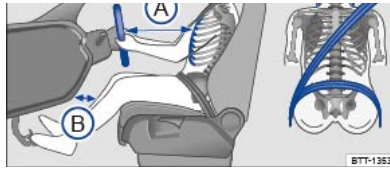

Fig. 30 Illustration: correct distance between the driver and the steering wheel, correct seat belt routing and correct head restraint adjustment.
- Adjust the head restraint so that its upper edge is at the same height as the top of the head, but not lower than eye level. Position the back of your head as close to the head restraint as possible ⇒ *Fig. 30*.
- Adjust the steering wheel so that the distance between the steering wheel and your breastbone is at least 25 cm ⇒ *Fig. 30* Ⓞ, and the circumference of the steering wheel can be held at the sides with both hands and your arms slightly bent ⇒ *Steering wheel*.
- Adjust the driver seat by moving it forwards or backwards so that you are able to press the pedals to the floor with your knees still slightly bent and so that the distance from the dash panel to your knees is at least 10 cm ⇒ *Fig. 30* Ⓞ.